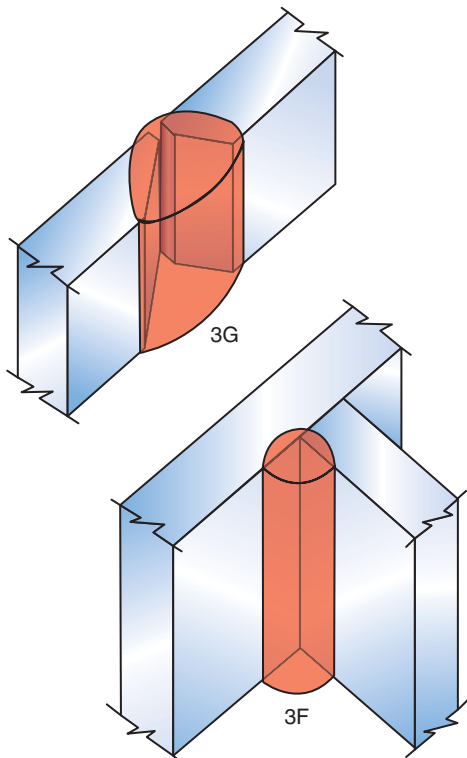

Figure 3.8 Plate vertical position
- vertical 3G or 3F—The axis of the weld is approximately vertical, Figure 3.8.